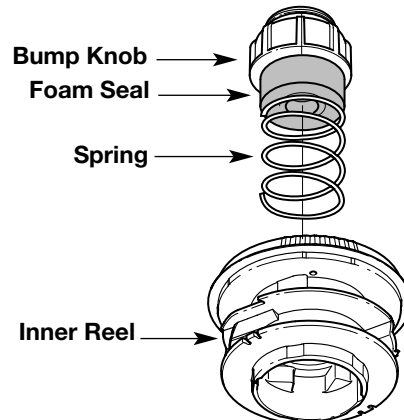

Fig. 19
1. Turn the Bump Knob counterclockwise and remove the bump knob, spring, and foam seal (Fig. 19).
2. Pull out the bump knob, spring, and foam seal (Fig. 19, Pg. 13).
3. Pull the inner reel with existing line from the outer spool (Fig. 19, Pg. 13).
7. Place the bump knob, spring, and foam seal into the inner reel (Fig. 19, Pg. 13).